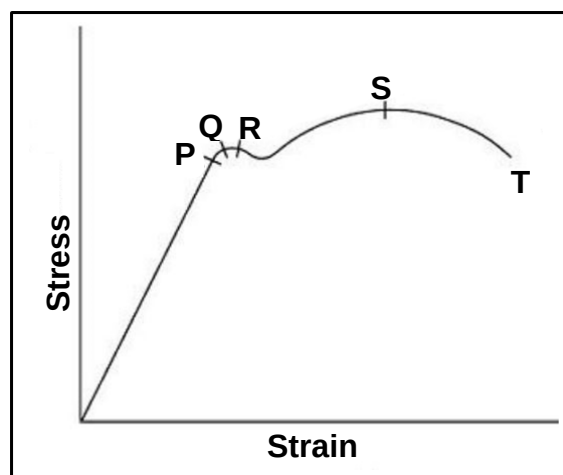

FIGURE 4.4
- (1)
- 4.4 Identify **S** in the stress-strain diagram in FIGURE 4.4 below.